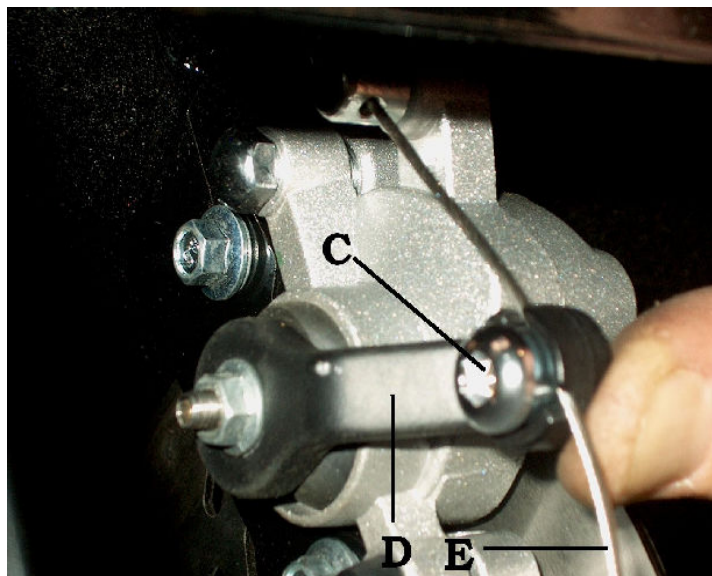

Fig. 4-2
Remove the bottom cover of the rear end. With a #5 Metric Allen head, loosen the brake cable retaining bolt (C). Push up on the brake actuator (D) as shown (Fig. 4-2) and pull the brake cable (E) until it is tight. While maintaining pressure on the actuator, tighten the cable retainer bolt (C).